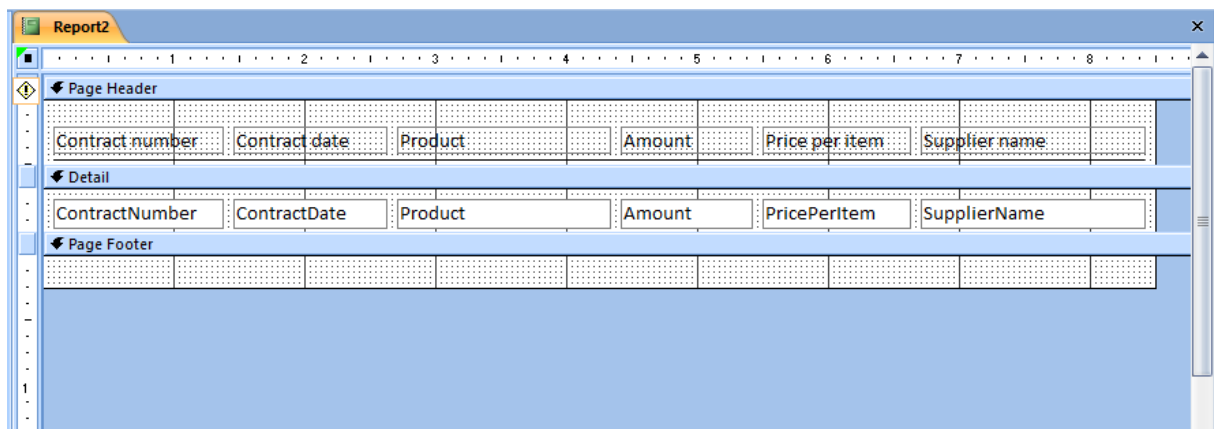

Figure 4.2
- 2) Report designer window will appear (figure 4.2);
- 4) Create report layout using “Label”, “Text Box”, and “Line” controls as it is shown in figure 4.2;